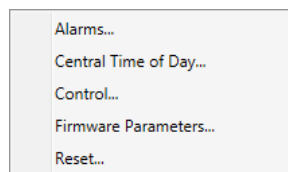

Figure 3-44 – Ramp Meter Context Menu
- **Ramp Meter Context Menu** (see Figure 3-44): This context menu provides the operator with options for Ramp Meter devices available by selecting an icon on the map.